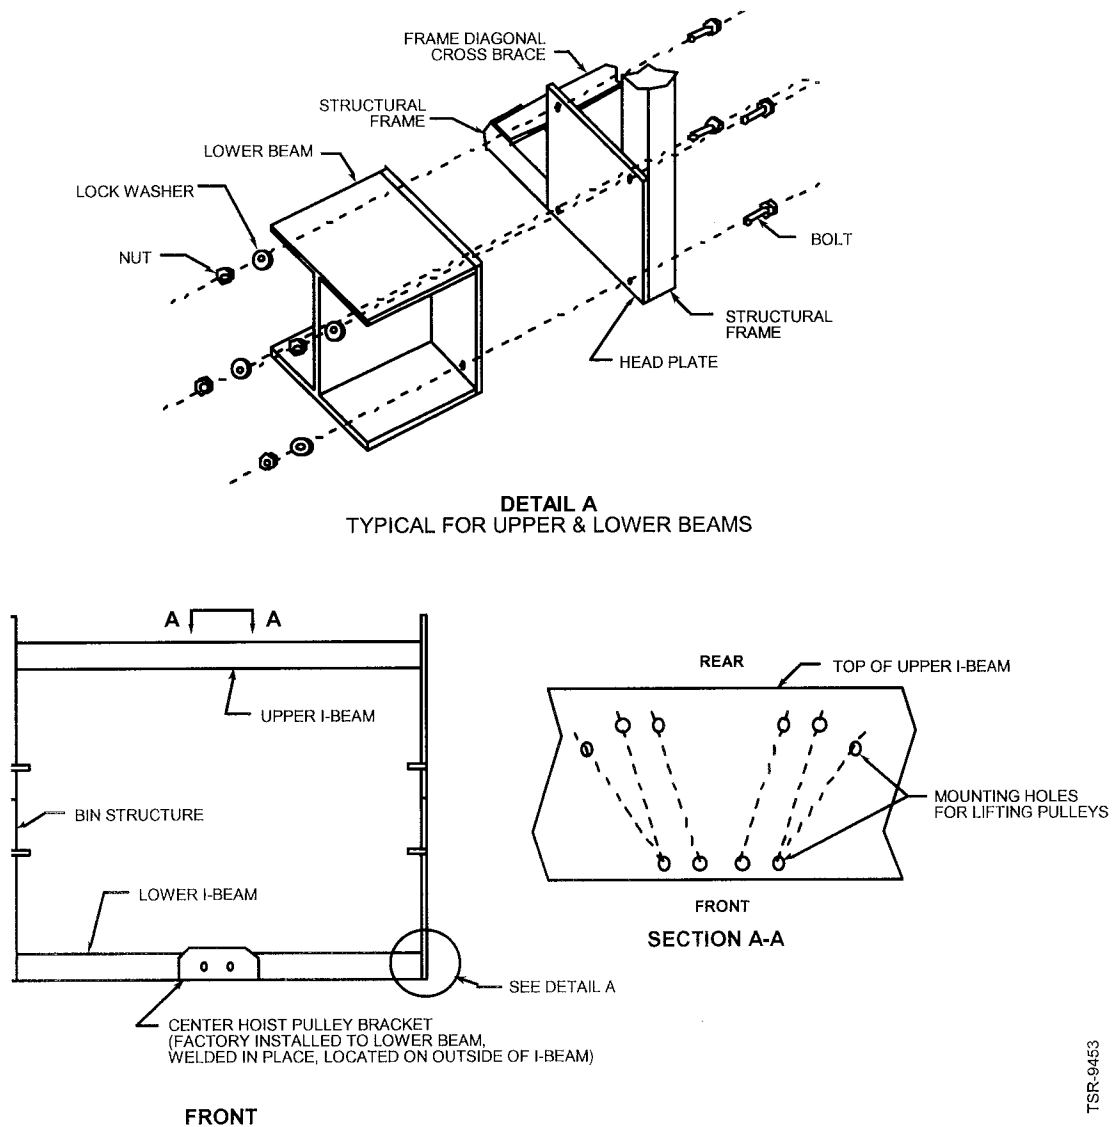

Figure 3-3 Upper & Lower I-Beam Installation
The bin structures are marked left, right, and rear. The lower sections are marked with the number one (1), the second row number (2), if used third row number is (3), and fourth row number (4). Bolt in the lower I-beam to the front of the lower left hand and right hand bin structures using the lower I-beam hardware. Refer to Figure 3-3.
The top sections of the bin structure also have mounting plates located on the inside front of the left and right hand side structure. To assemble the top section on all rakes assemble the sides and rear first and then mount the upper I-beam between the two side structures using the hardware provided. Reference Figure 3-3 above for the orientation of the holes in the upper beam. The holes in the top for the hoist pulley brackets that will be installed later should be on top as shown.